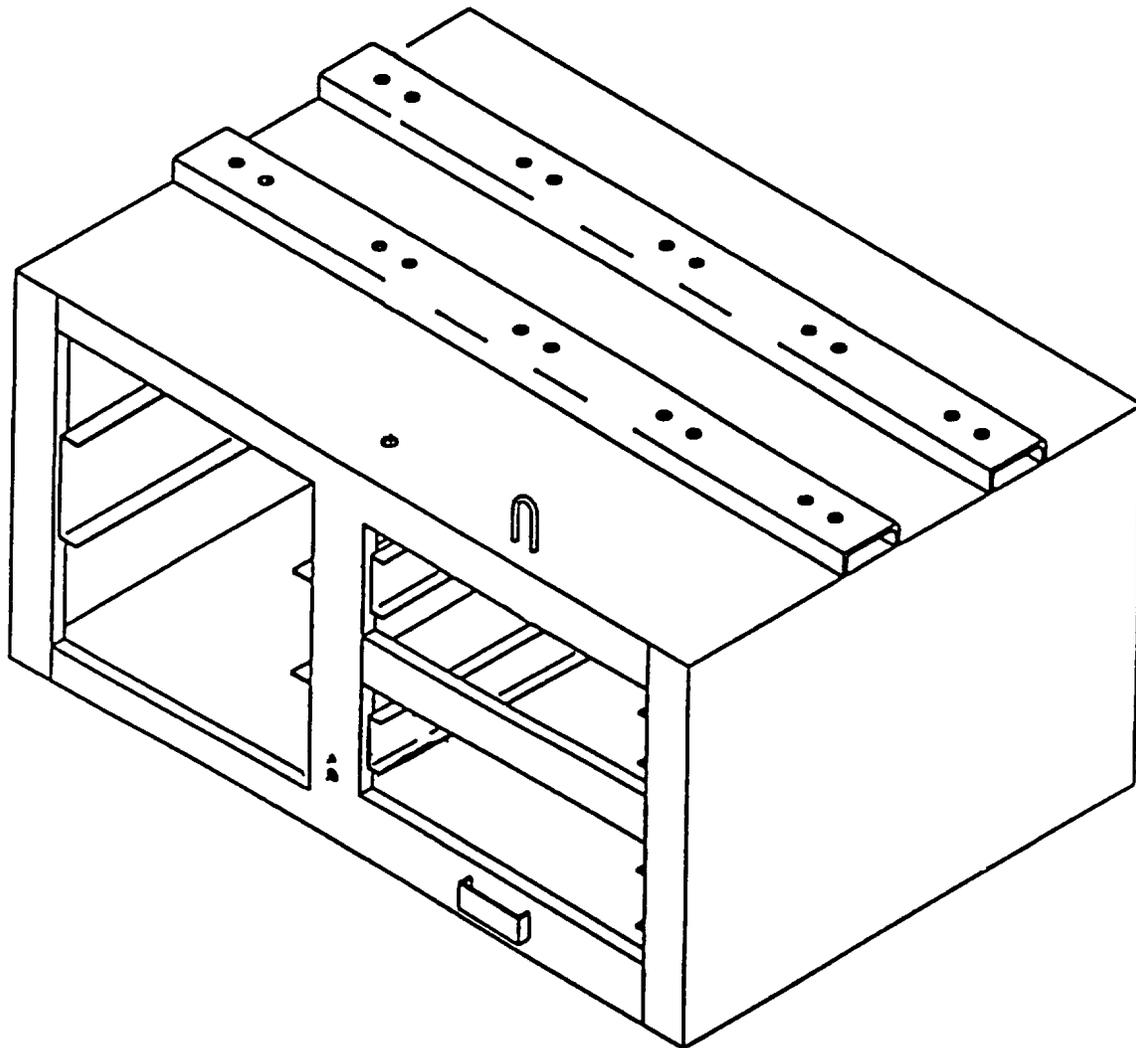

Figure 5-7. Reel Cabinet Frame
- a. Repair. (Refer to Figure 5-7).
- (1) Use dry cleaning solvent to clean all areas of cabinet.
- (2) Inspect cabinet frame for cracks, defective drawer guides, broken weldments and other damage.
- (3) Clean off corrosion with wire brush, then repaint in accordance with TM 43-0139.
- (4) Fix dents as needed. (Reference FM 43-2).
- (5) Weld cracks as needed. (Reference TM 9-237).